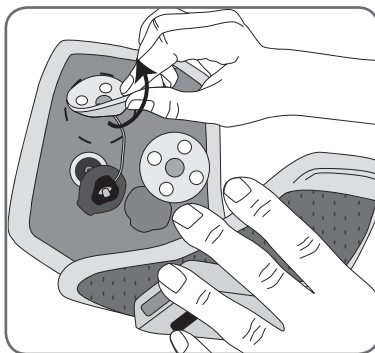
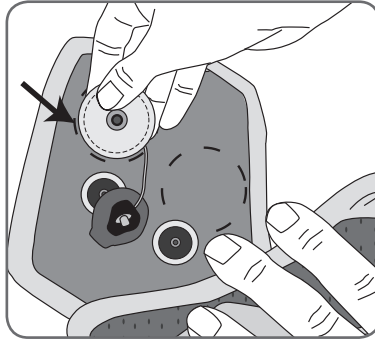

Figure 61: Removing the used L300 electrode bases.
Figure 62. Attaching the new L300 electrode bases.
4. Remove the used L300 electrode bases from the L300 FS Cuff. See Figure 61. Attach the new L300 electrode bases where the previous bases were attached. See Figure 62.